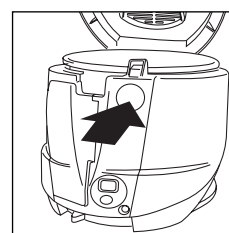

fig. 2
- Open the lid by pressing the lid release button (fig. 2).